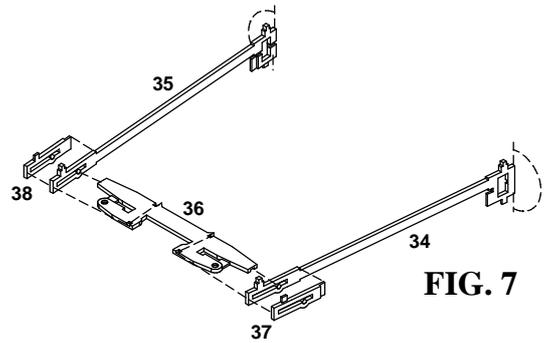
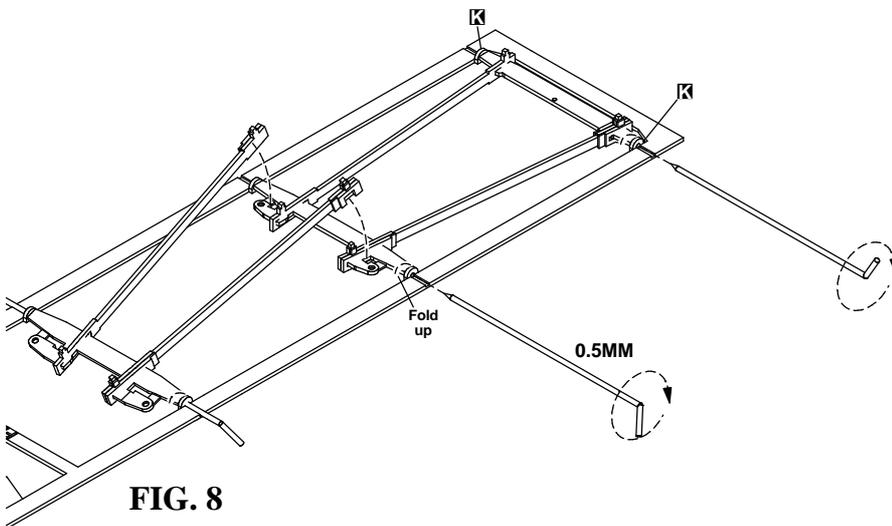

FIG. 7
FIG. 8
Refer to Figure 7. Fold up the small details at the rear ends of the Leading Brake Rods (34 & 35) with the bend lines on the **outside**, to make a handed pair. Now assemble the rods onto the Front Stretcher (36) along with the Leading Rods' Front End Details (37 & 38) then assemble them in the jig, locating the stretcher by using a wire as previously described, but this time, as you swing the back ends of the leading rods down, clip them fully home into their locations in the midway stretcher (Fig. 8). Check the alignments and solder the parts in place, just as you did for the rear section.